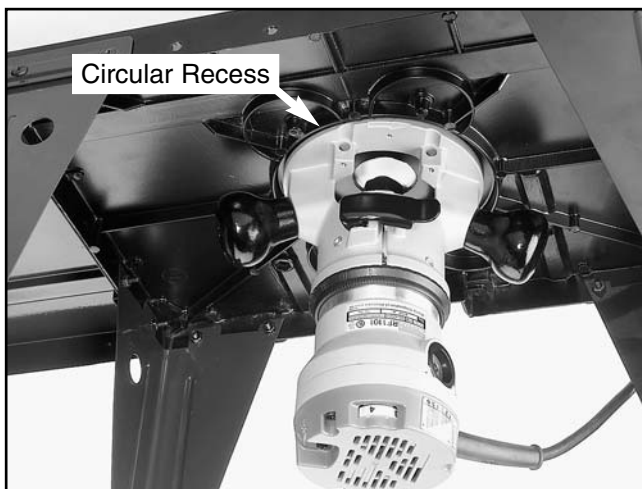

Figure 7. Router positioned correctly for "Method 1" installation.
2. Turn the router upside down and hold the router base against the circular recess in the underside of the main table as shown in **Figure 7**.